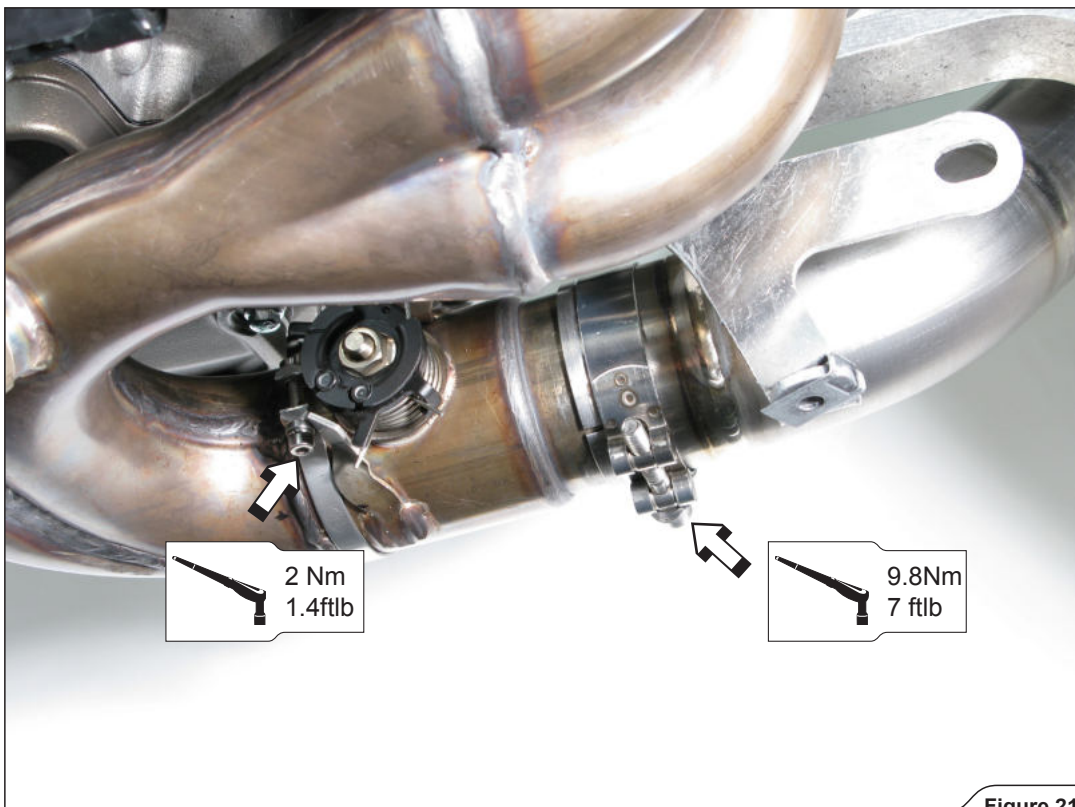

Figure 21
11. Tighten the metal clamp and metal clamp with spring hook (Figure 21).